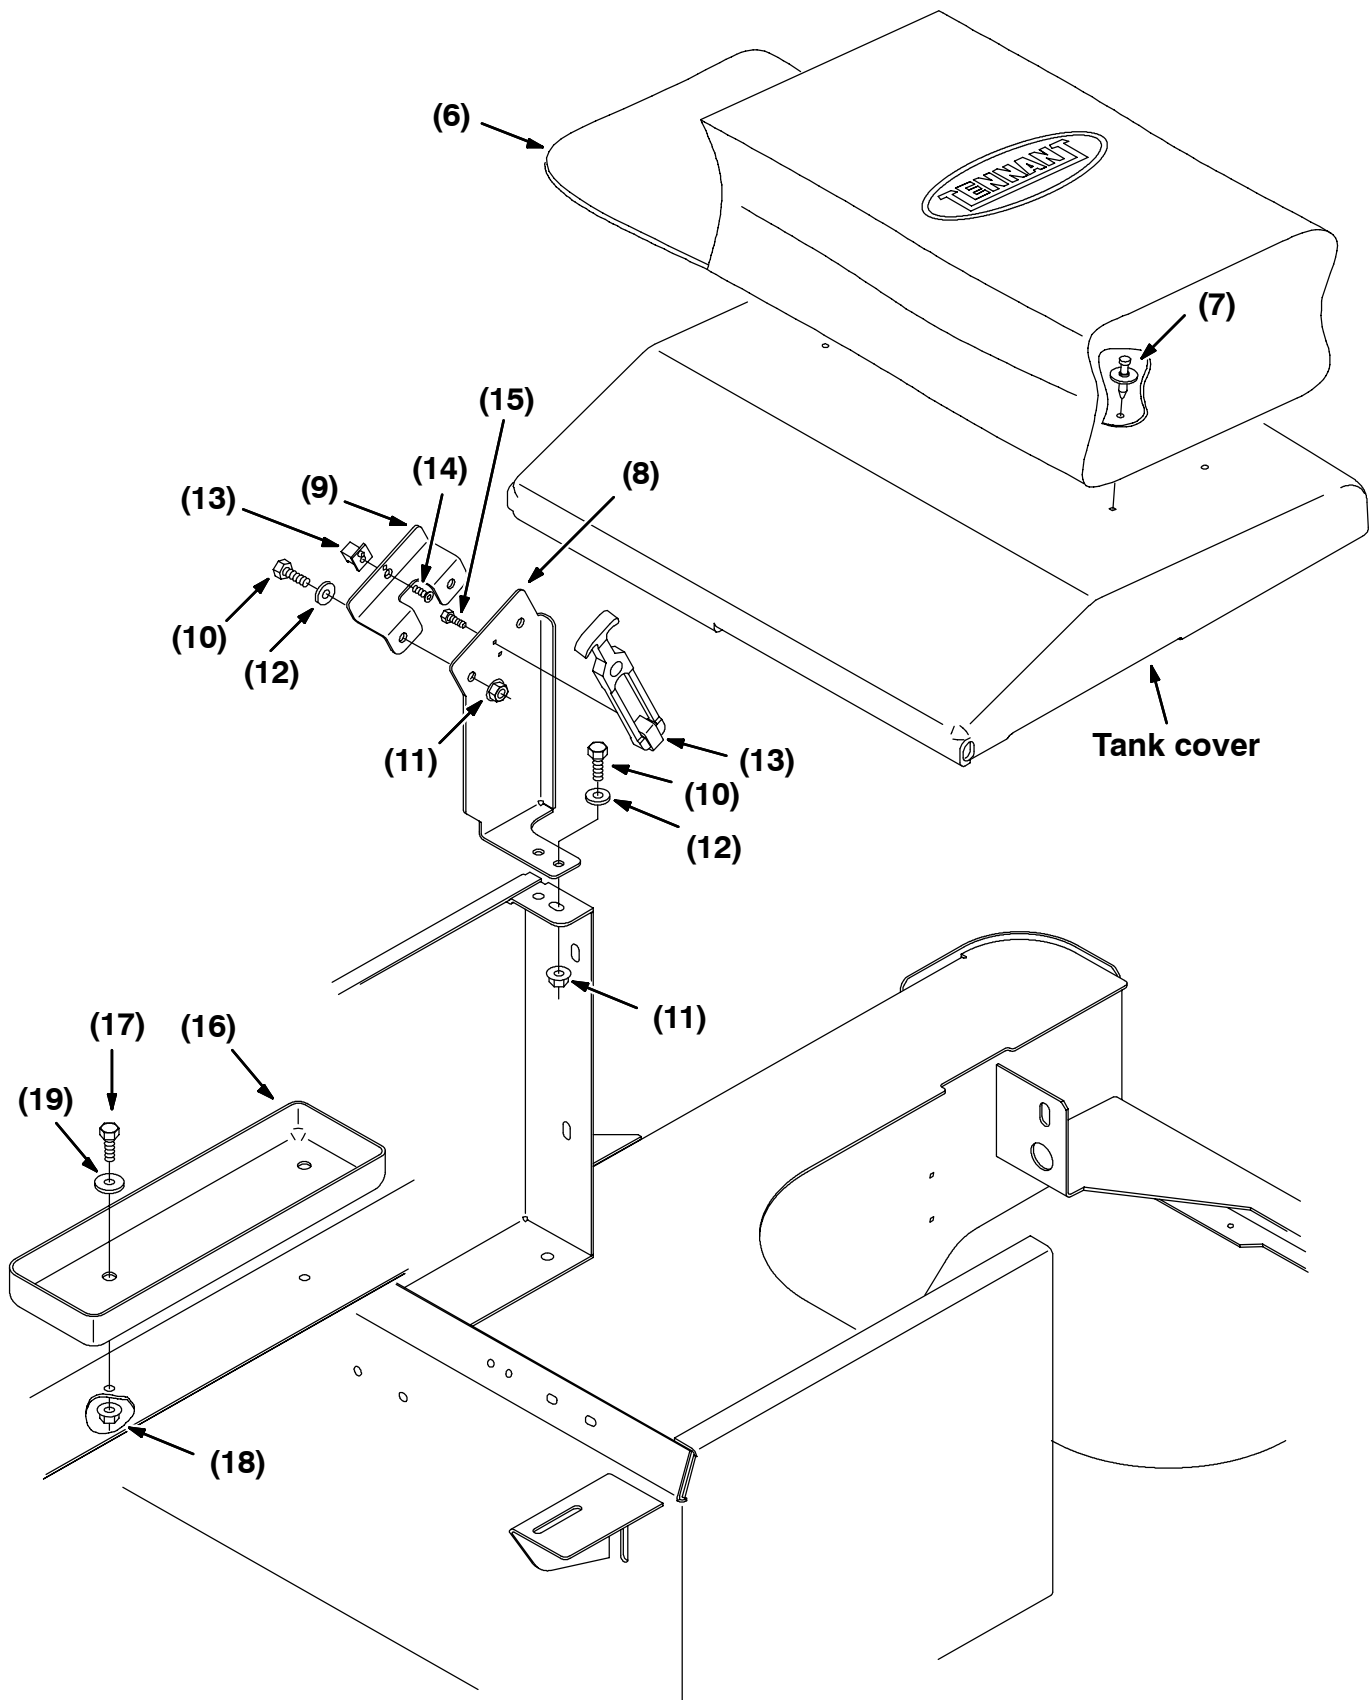
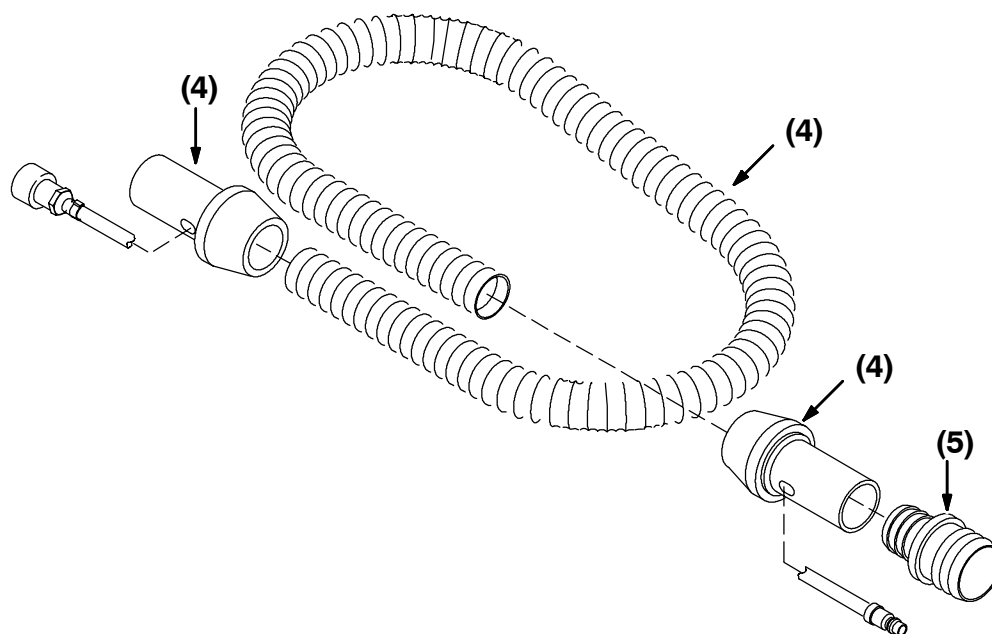

FIG. 3-Power Wand Mounting Assembly
FIG. 5-Power Wand Hose Assembly
6. Install the power wand bag (6) onto the top of the tank cover using the four plastic rivets (7). Refer to Fig. 3.
7. Remove the plastic plugs from the two holes on top of the right side machine bumper. Refer to Fig. 3.
8. Install the brush tray (16) on the right side bumper using two screws (17), fender washers (19), and nuts (18). Hand tighten hardware. Refer to Fig. 3.
9. Install the power wand bracket (8) on the seat support frame using two screws (10), washers (12), and nuts (11). Hand tighten hardware. Refer to Fig. 3.
10. Install the larger part of the flex draw latch (13) onto the bracket (8) using two screws (15). Hand tighten hardware. Refer to Fig. 3.
11. Install the second bracket (9) onto the first bracket (8) using two screws (10), washers (12), and nuts (11). Hand tighten hardware. Refer to Fig. 3.
12. Install the smaller part of the flex draw latch (13) onto the bracket (9) using two screws (14). Hand tighten hardware. Refer to Fig. 3.
25. Install the plastic straight fitting (5) into the power wand hose (4). Refer to Fig. 3 and Fig. 5.
26. Place the power wand hose assembly into the bag (6). Refer to Fig. 3 and Fig. 5.